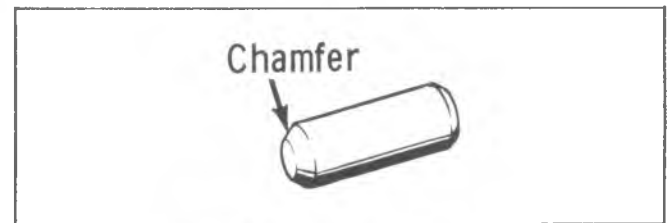

Fig. E-74—Dowel Pin Chamfer
1. Grind a chamfer on one end of each dowel pin as shown in Fig. E-74.